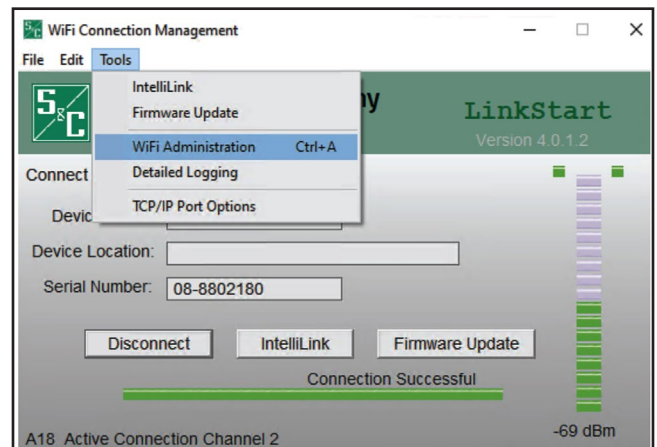

Figure 25. The Wi-Fi Administration entry on the Tools menu.
**STEP 3.** Open the **Tools** menu and click on the **Wi-Fi Administration** option. See Figure 25.